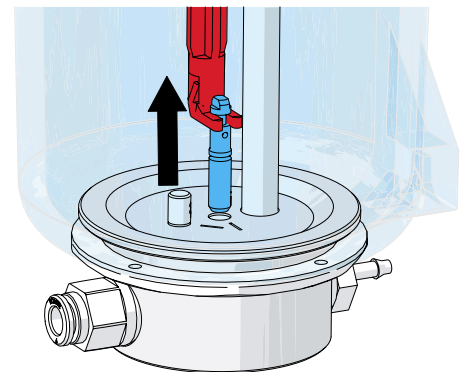

Fig. 11
- ⇒ Hold the dosing nozzle with the tool and pull upwards (Fig. 11).